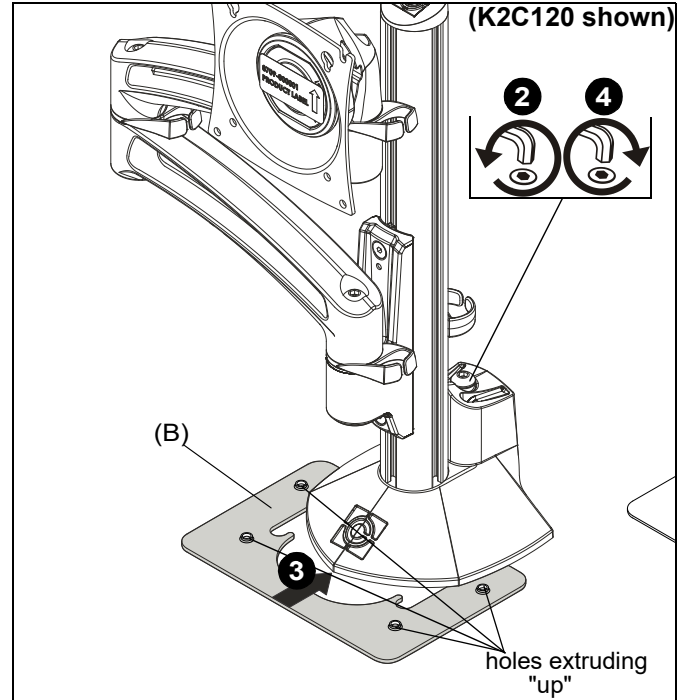

Figure 2
2. Loosen clamp holding Kontour™ mount to desk by loosening clamp screw. (See Figure 2)
3. Slide foot plate (B) under top portion of desk clamp, making sure holes are extruding "up." (See Figure 2)
4. Tighten clamp holding Kontour™ mount to desk by tightening clamp screw. (See Figure 2)